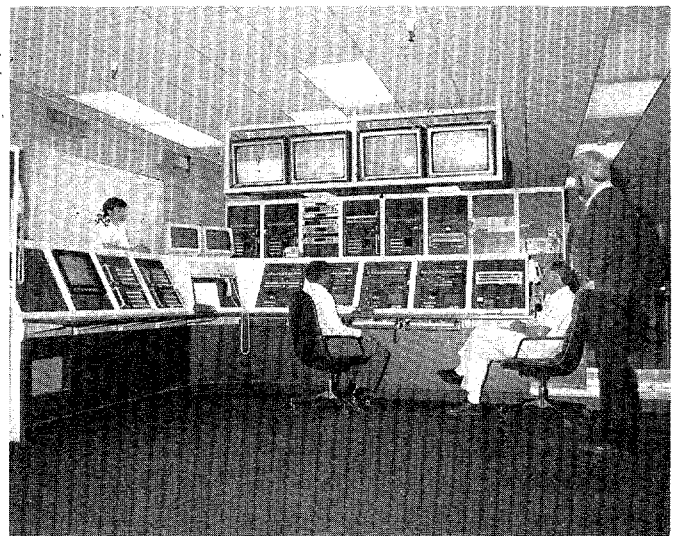

Fig. 5
(9) The Los Alamos Test Group Director is given approval by the Test Controller to "arm the device," and the arming party makes the final connections of the arming and firing system to the downhole firing components. The arming party then returns from ground-zero area to the CP several miles away. All other personnel have already been cleared from the forward area.
(10) After a final determination of acceptable weather conditions, the Test Controller gives the Test Director "permission to fire." The control signals are sent from the Los Alamos control room (see Fig. 5) by microwave link to the "Red Shack," which houses the arming and firing equipment near ground zero.